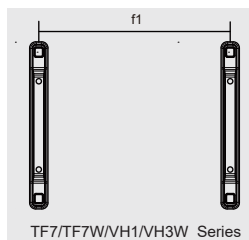

Figure 4
1. Refer to Figure 4 of the Installation Schematic, and drill two holes in the wall with an percussion drill to match the accessory expansion hook according to the dimensions shown in Figure 5.